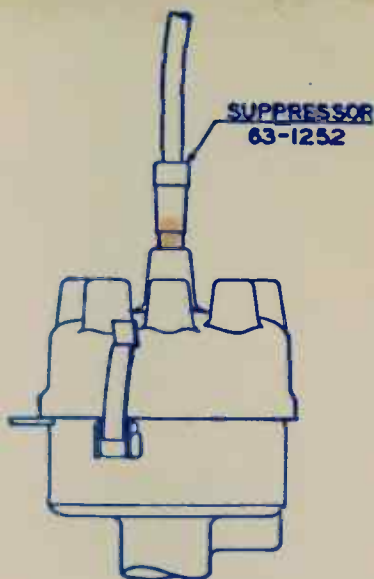

Fig. 2
2. Install suppressor No. 63-1252 in center of hole of distributor cap. Place high tension lead in top of suppressor. Be sure the suppressor and the lead are fastened securely. (Fig. 2)